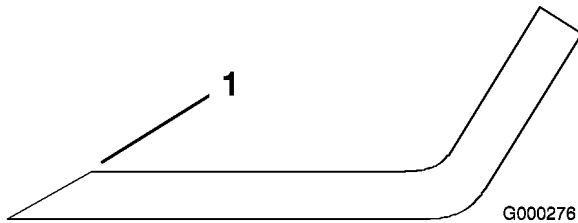

Figure 69
1. Use a file to sharpen the cutting edge at both ends of the blade (Figure 69). Maintain the original angle. The blade retains its balance if the same amount of material is removed from both cutting edges.